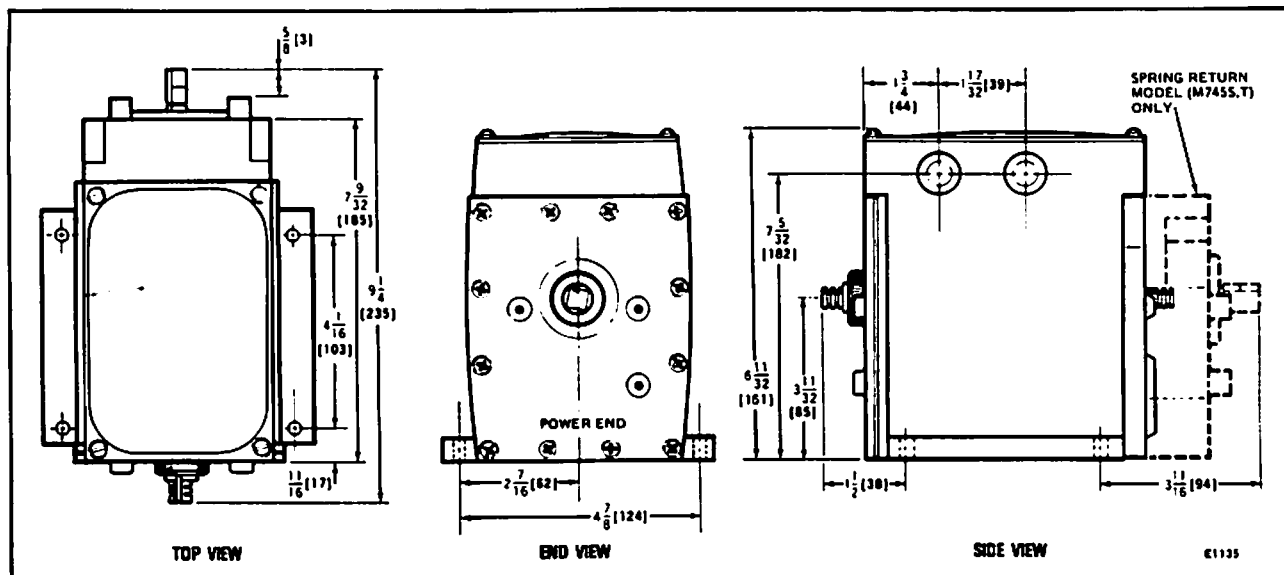

FIG. 1—M744S,T and M745S,T MOUNTING DIMENSIONS IN in. [mm IN BRACKETS].
**DIMENSIONS:** Refer to Fig. 1.